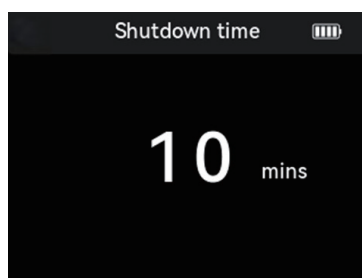

Figure 17
3. Upon completion of device usage, the device can be powered off by pressing the shutdown button, or alternatively, it can be left idle, and the device can be set to switch off automatically after 60 minutes as shown in Figure 17(The shutdown time can be set from 5 minutes to 60 minutes, with each adjustment increment being 5 minutes).